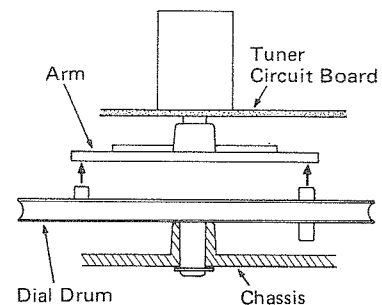

Fig. 36
5. Engage 2 projections of dial drum with the slots of arm which is mounted on the shaft of variable capacitor as shown in Fig. 36, when mounting the tuner circuit board on the chassis.